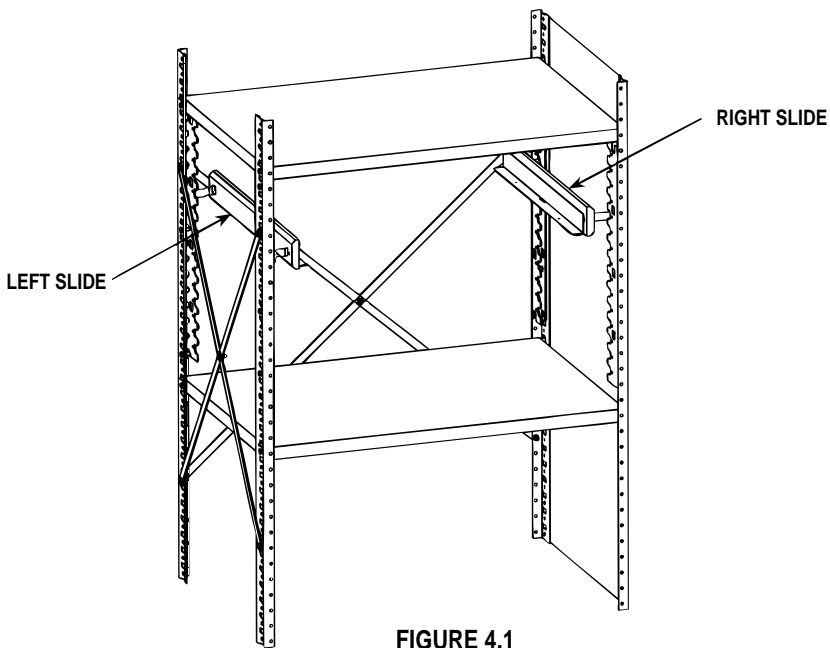

FIGURE 4.1
2. Insert the lance on the rear of the drawer slide into the notched section of the mounting upright. (See Figure 4.1)